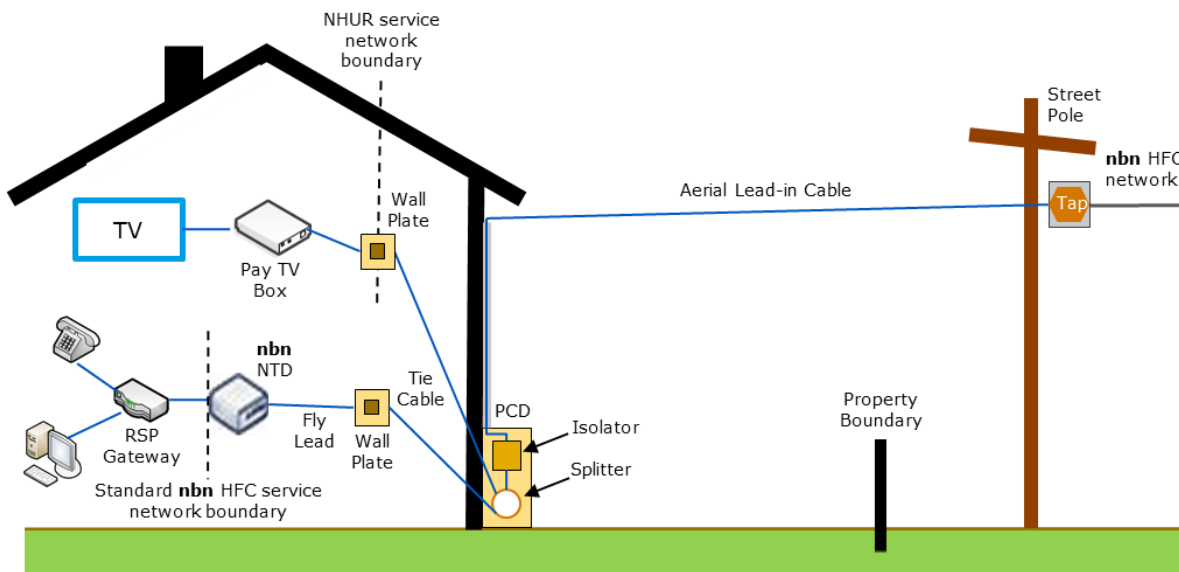

Figure 4 SDU nbn HFC installation – aerial TAP with aerial lead-in cable
- Aerial lead-in from a street utility pole infrastructure as shown in Figure 4
Figure 4 displays the aerial lead-in cable connected to the aerial TAP on street pole infrastructure.